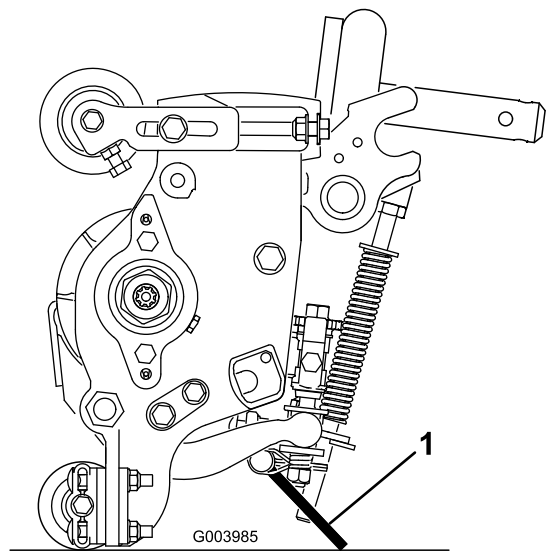

**Figure 30**
- 6. Repeat the procedure on the remaining 4 bulkhead locations as shown in Figure 27 through Figure 30.